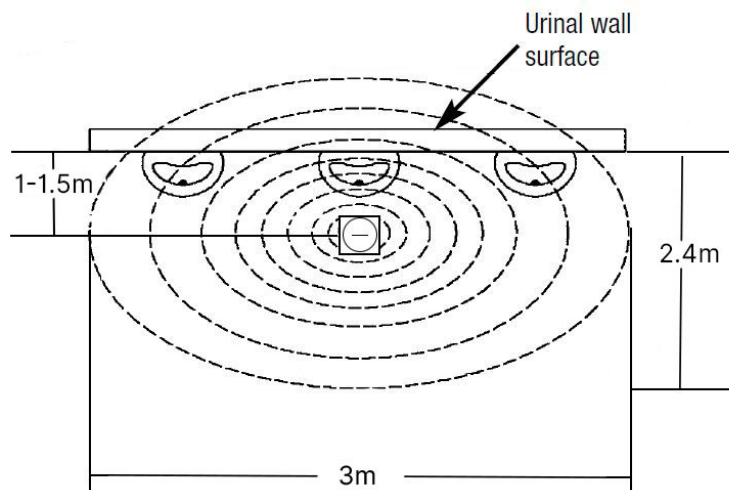
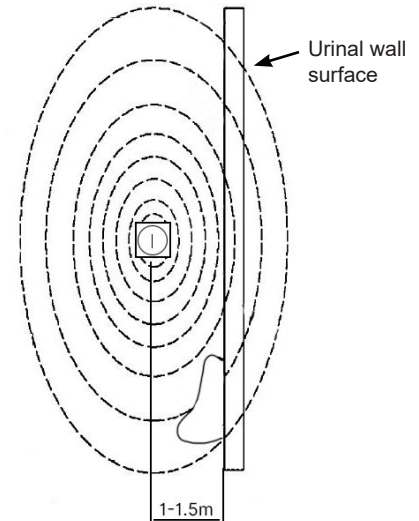

Fig 3. Ceiling Mounted - Note sensor slot (East/West) parallel to the urinal
Fig 4. Wall Mounted - Note sensor slot (North/South) parallel to urinal
- v. When a suitable location has been found, remove mounting plate from sensor unit (magnetic) and fix to ceiling (or wall) using appropriate fixing for substrate. Take note of sensor slot orientation - Fig 3 & Fig 4.
- If mounting on wall ensure sensor slot is orientated North / South. It can also be tilted to capture a greater range of heights - Fig 4.